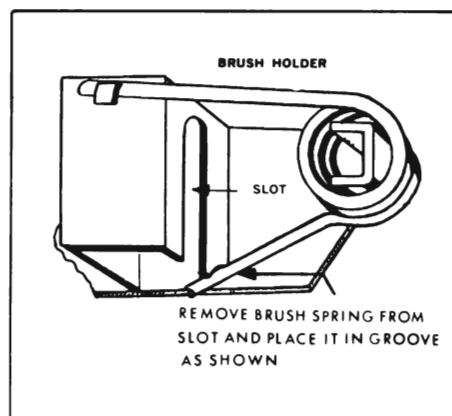

Figure 10-91—Releasing Brush Holder Spring Pressure
- (1) Open armature.
- (2) Brushes sticking.
(3) Brush springs improperly positioned (See Figure 10-91).